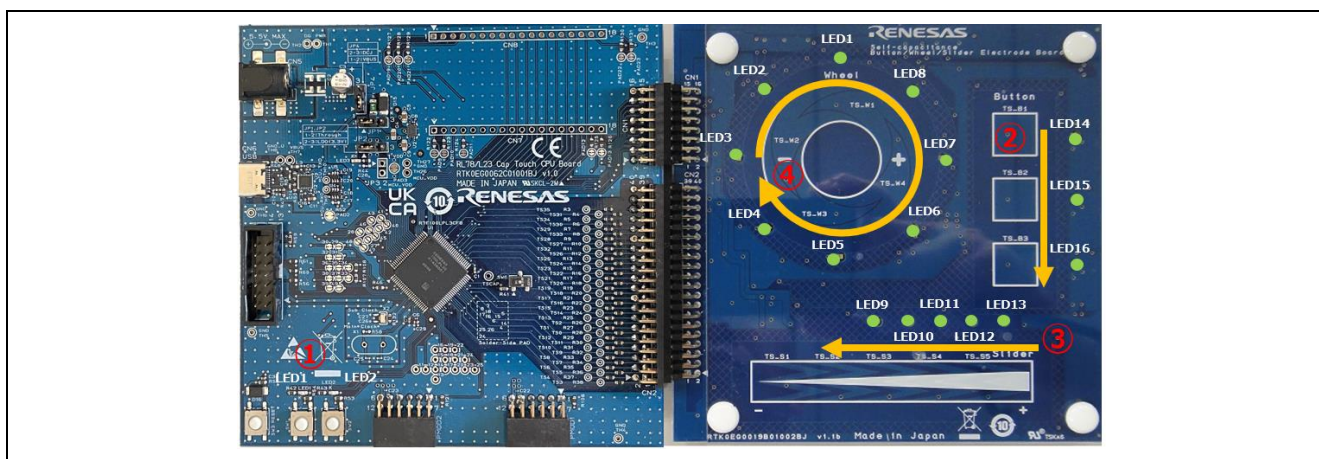

Figure 1-1 LED Testing During Software Startup
1. When the power is turned on and started, the LED test is performed. First, turn on LEDs 1 and 2 on the CPU board. After that, the LEDs on the electrode board are turned on and off in the order of buttons, sliders, and wheels. (See Figure 1-1.)